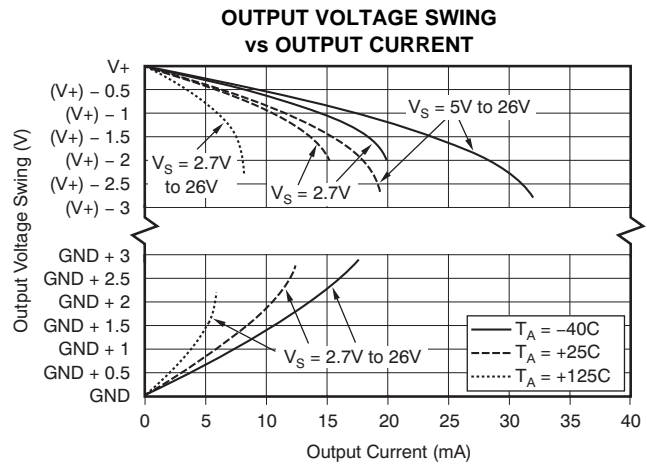

Figure 10.
(2) See Typical Characteristic curve, *Output Voltage Swing vs Output Current* (Figure 10).